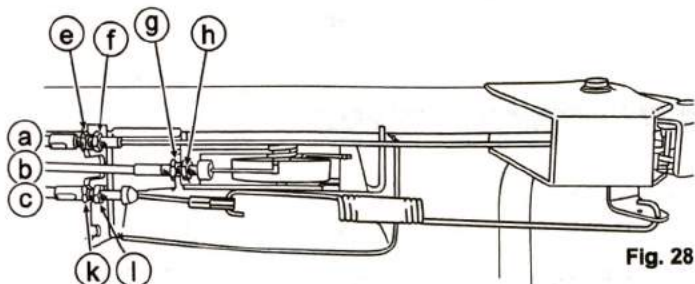

Fig. 28
8.6.1 Throttle Lever (See Figs. 28 and 29)
8.6.2 Blade Lever (See Figs. 28 and 30)
3. Confirm that the blade stops completely when Blade lever (C) is released.
8.6.3 Drive Clutch Lever (See Figs. 28 and 31)